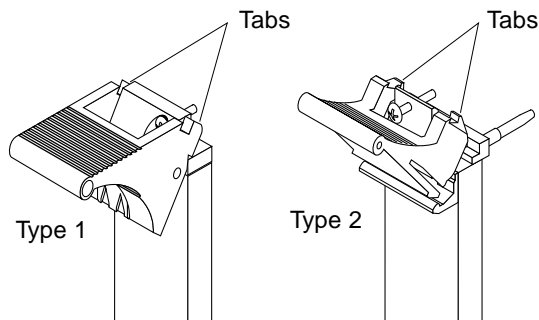

FIGURE 2-9 Ejection Lever Tabs (Two Types of Levers)
- 7. Push the card all the way into the slot until the two ejection levers move inward (FIGURE 2-9).**
The tabs of the ejection levers (see FIGURE 2-9) should fit smoothly into the rectangular cutouts in the top and bottom of the slot.